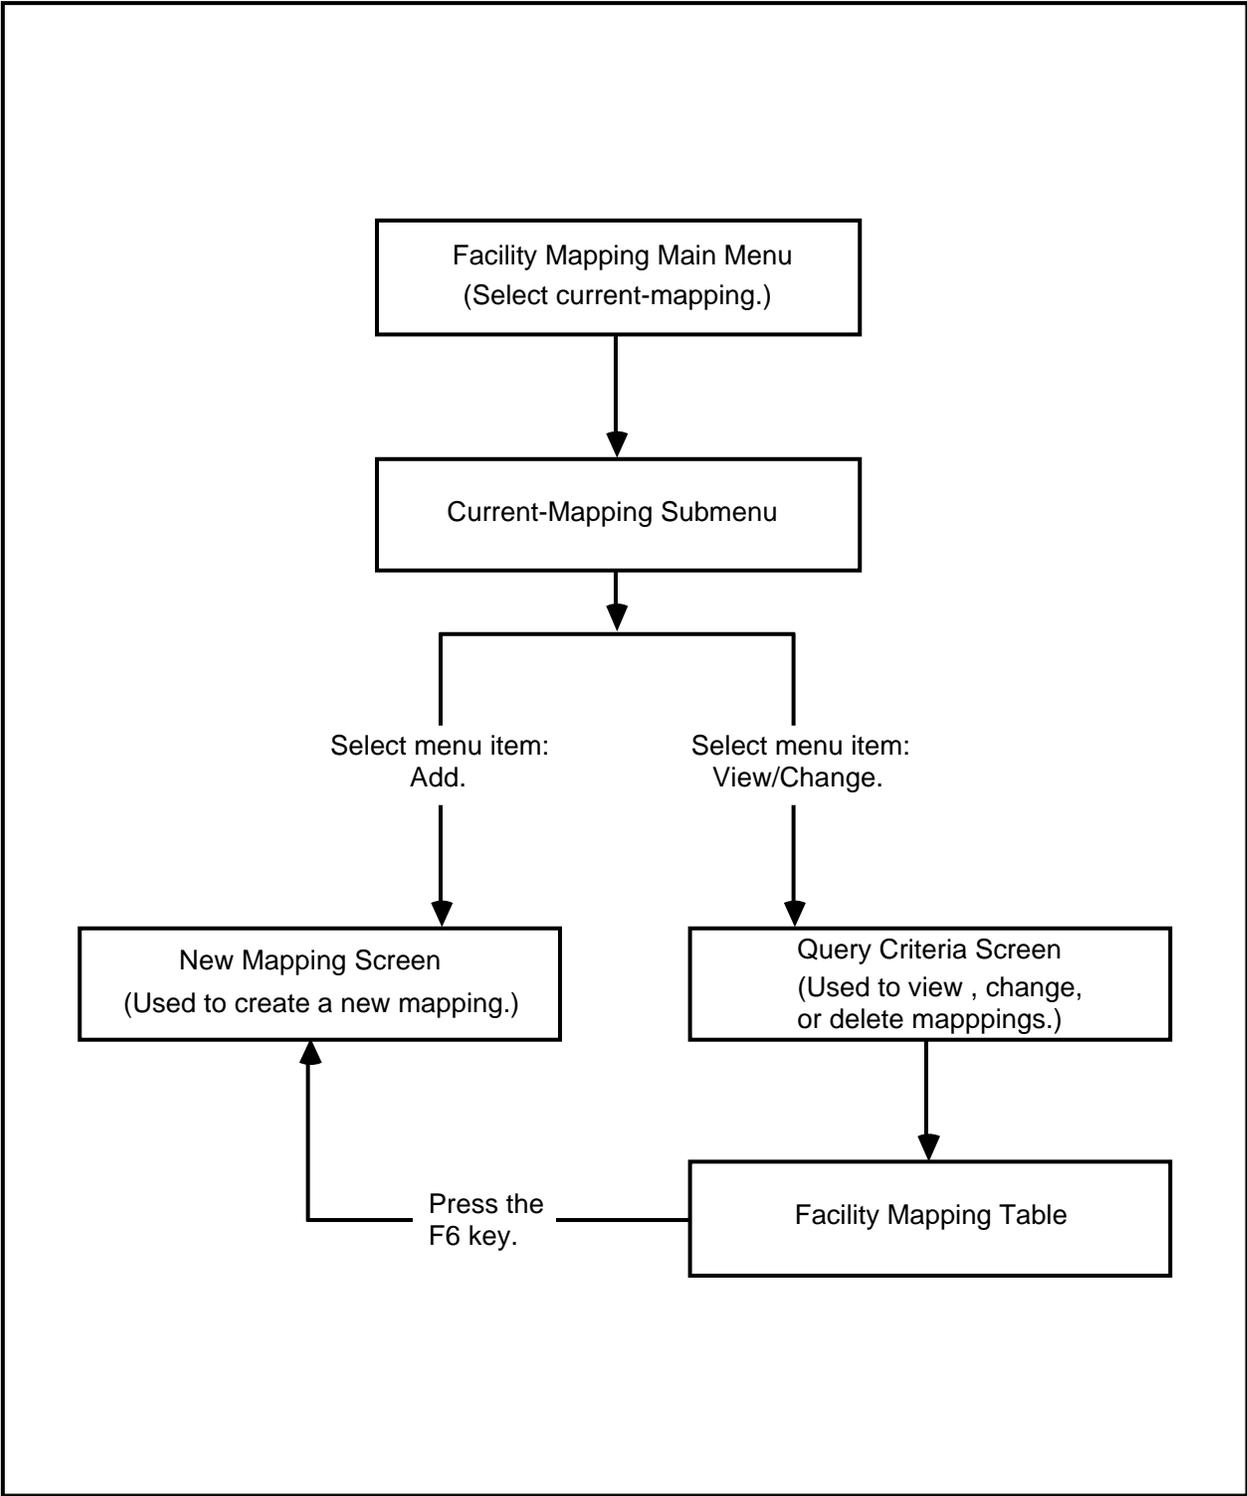

Fig. 7-3
7.10 Field Information. The Current-Mapping Query Criteria screen (see Fig. 7-2) is used to access the Facility Mapping table for the purpose of viewing the facility mappings, changing a facility mapping, and deleting a facility mapping (see Fig. 7-3). The following list describes the information required as data for the fields of the Query Criteria screen.